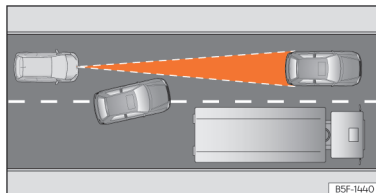

Fig. 106 Vehicle changing lanes.
- Vehicles that move into your lane, a short distance from your vehicle »» **Fig. 106**.